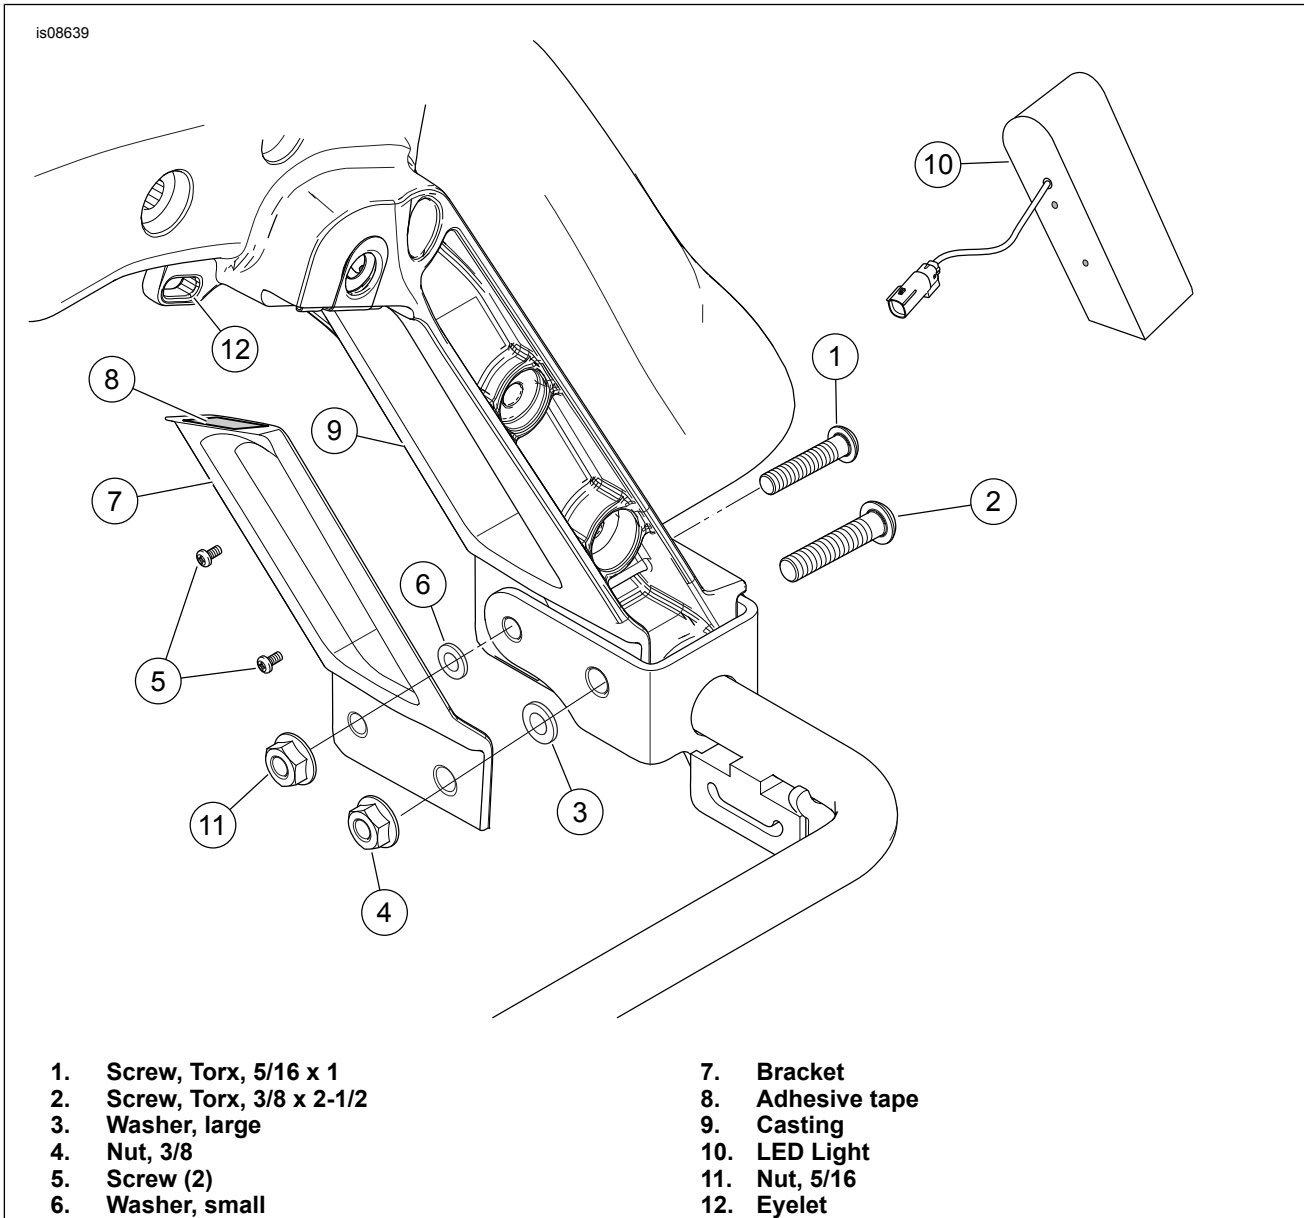

Figure 1. Run/Brake/Turn Auxiliary Lights
4. See Figure 1. Remove nuts (4 and 11). Do not remove screws. Screws are an aid in locating the backing plate.
21. One month after install verify screws (5), See Figure 1, are tight.